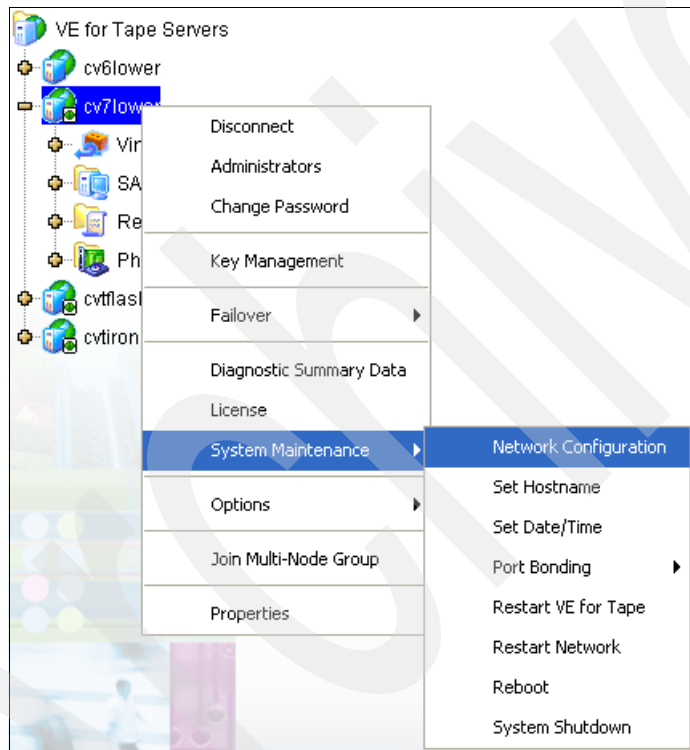

Figure 12-10 Select Network Configuration window
1. Right-click <your TS7530 server> then select **System Maintenance** → **Network Configuration** from the panel shown in Figure 12-10.